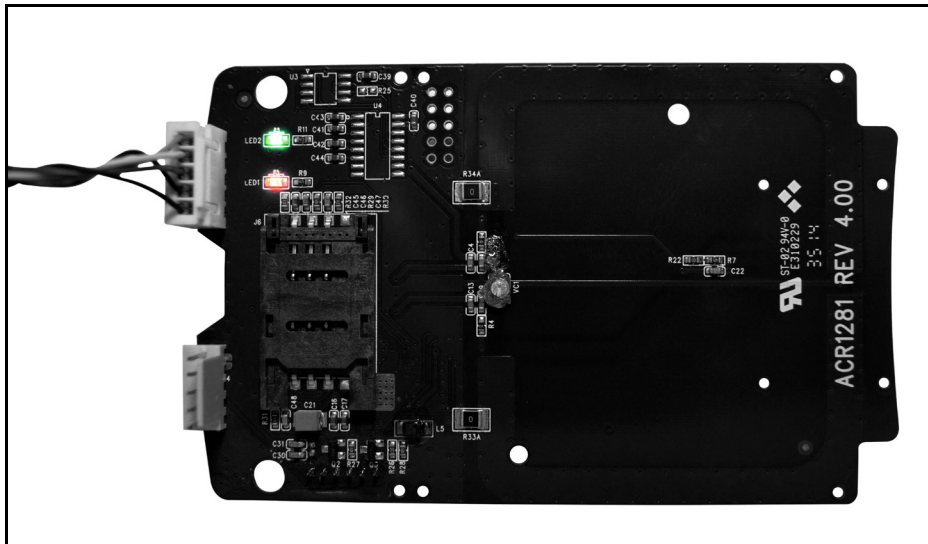

Figure 2: ACM1281 LED Configuration
- Figure 2 : ACM1281 LED Configuration..... 4**